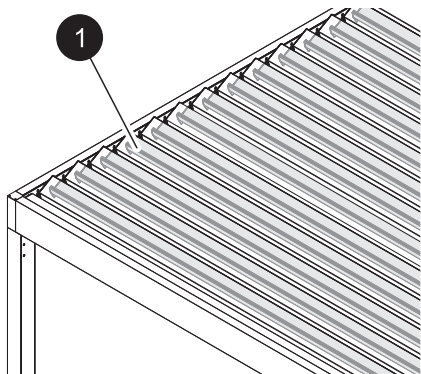

Fig. 16: Cleaning the slat brushes
3. Using a soft brush or a damp cloth, carefully brush off the brush strips (Fig. 16/1) on each slat.